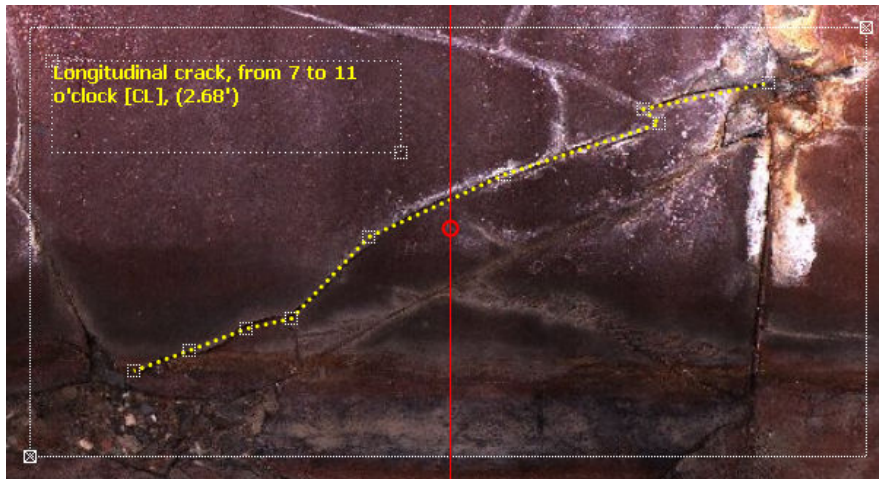

Figure 23: A selected polyline with its bounding rectangle of the text and the overall bounding rectangle.
- With the *free* setting you can freely modify the graphics frame with the corner points of the graphic as shown in Figure 23.